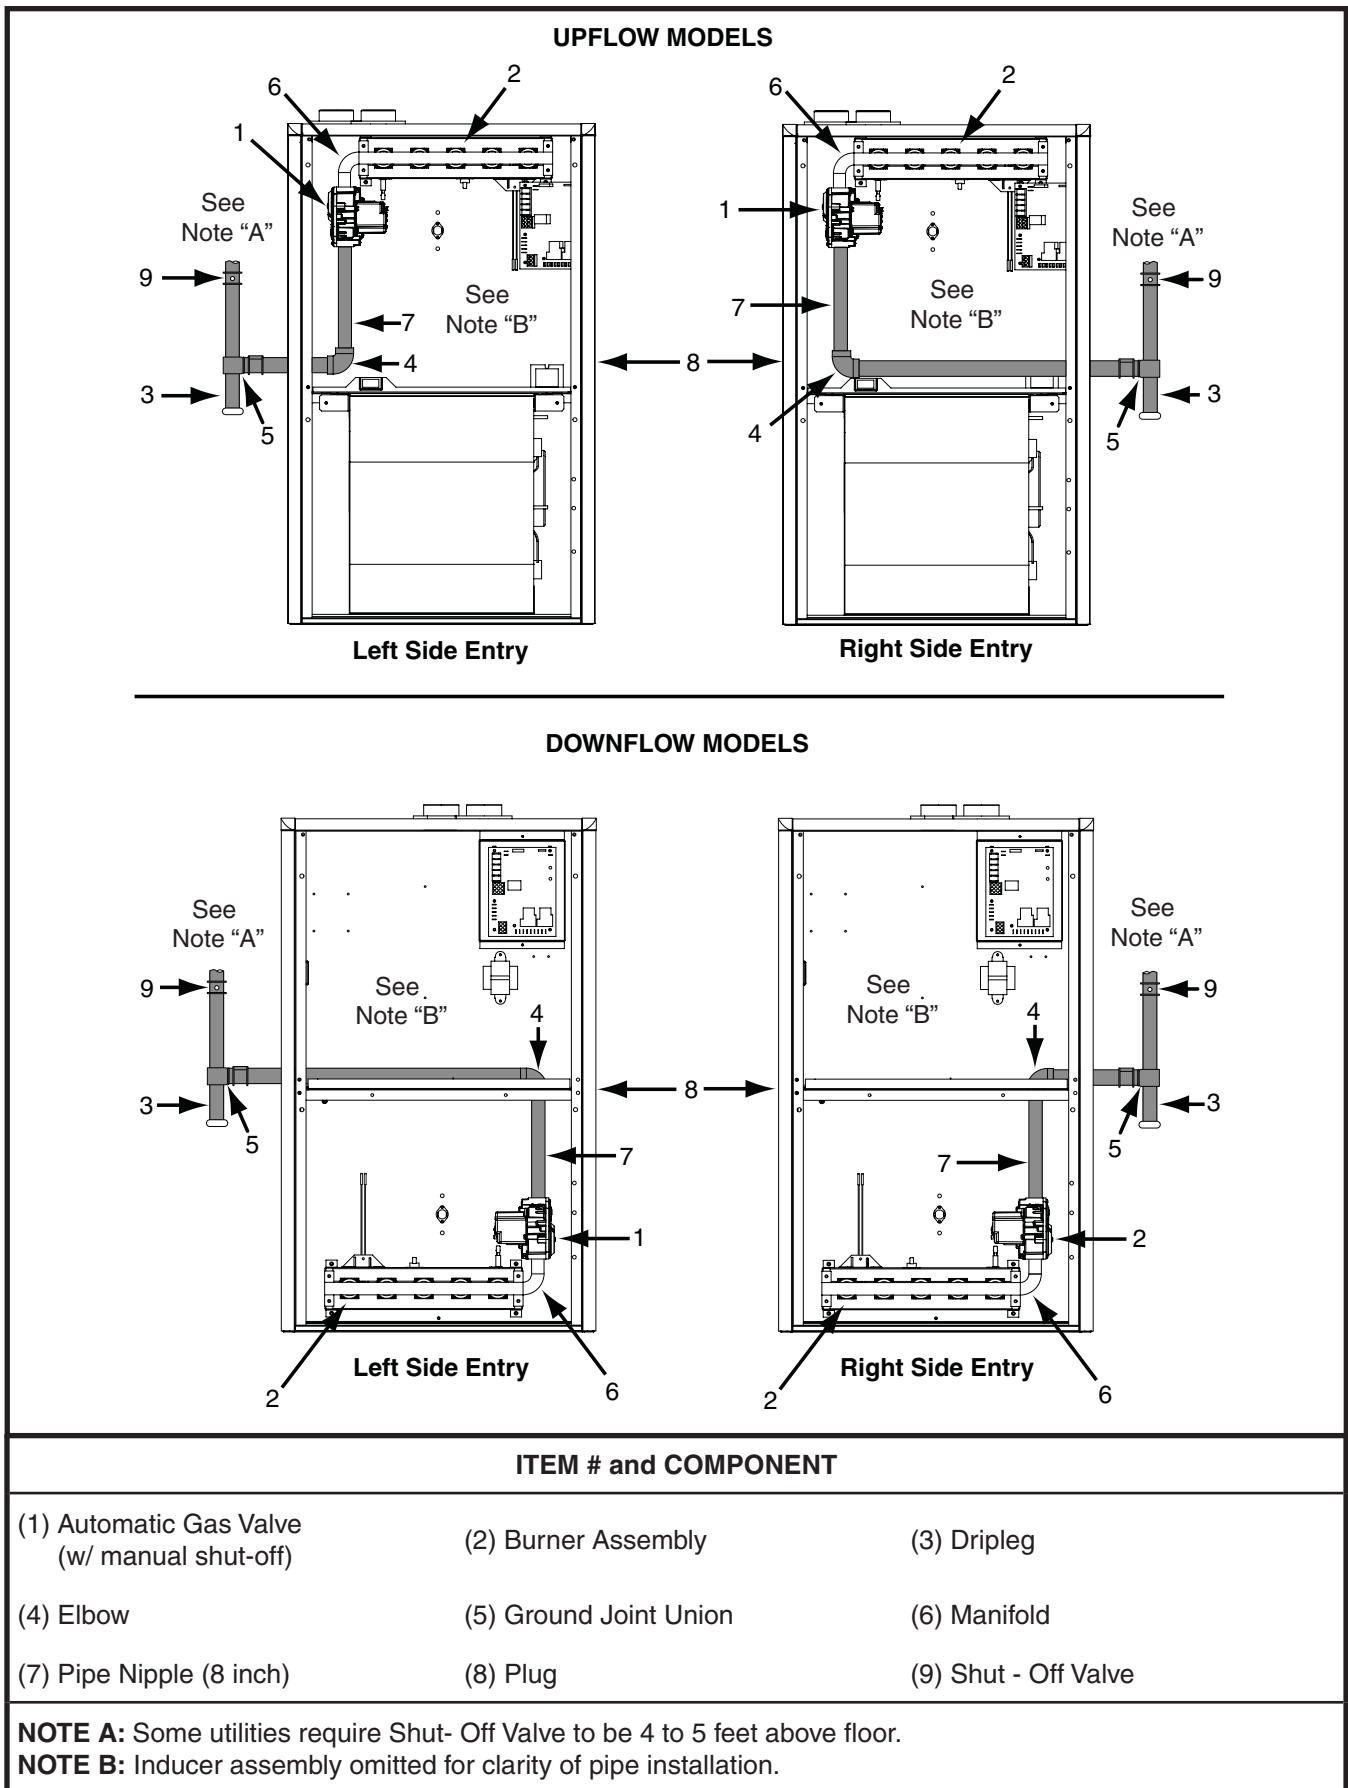

Figure 23. Typical Gas Connections
- **Some local regulations require the installation of a manual main shut-off valve and ground joint union external to the furnace See Figure 23 (page 23). The shut-off valve should be readily accessible for service and/or emergency use. Consult the local utility or gas supplier for additional requirements regarding placement of the manual main gas shut-off.**
- **A drip leg should be installed in the vertical pipe run to the unit (Figure 23).**
The furnace may be installed with either left or right side gas entry. When connecting the gas supply, provide clearance between the gas supply line and the entry hole in the furnace casing to avoid unwanted noise and/or damage to the furnace. Typical gas hookups are shown in Figure 23.